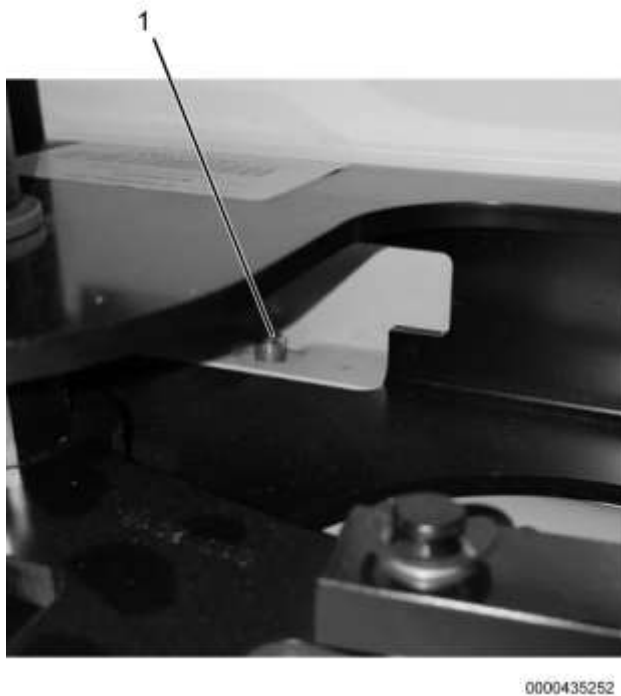

Figure 6. Lock Rod
- b. Ensure lock rod (Figure 6, Item 1) is extending above sheet metal level.